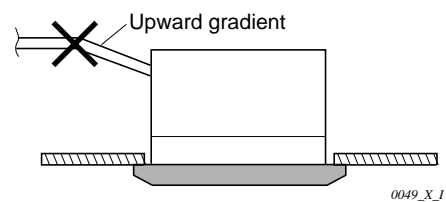

Fig. 3-15
- Do not install the pipe with an upward gradient from the connection port. This will cause the drain water to flow backward and leak when the unit is not operating. (Fig. 3-15)